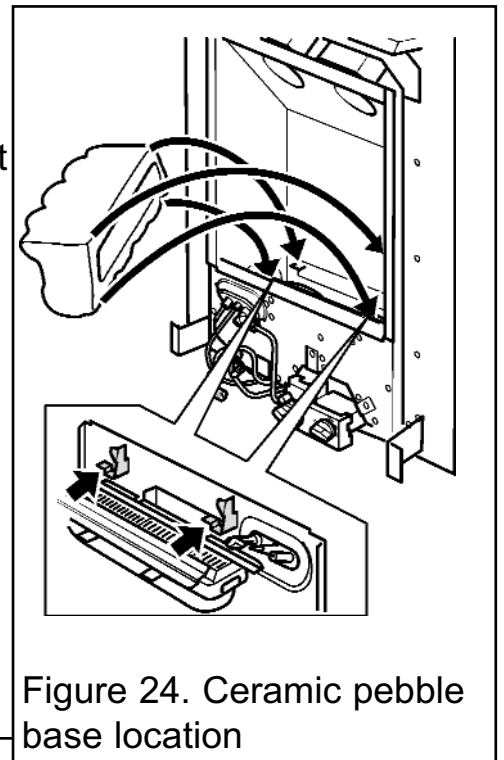

Figure 24. Ceramic pebble base location
**1.** Fit the ceramic pebble base into the fire above the burner. The front of the ceramic pebble base should locate on the horizontal faces but behind the vertical faces of the two location brackets positioned at the front of the burner module (See figure 24).